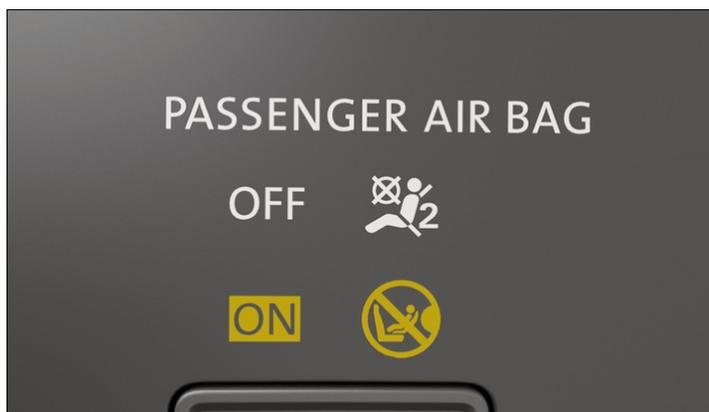

Fig. 2 In the center console: indicator light for the activated passenger's front airbag.
**ON**  Front passenger's airbag enabled. The yellow indicator light on the center console turns off on its own approximately 60 seconds after you switch on the ignition or after you enable the front passenger's front airbag using the key-operated switch → *fig. 2*.